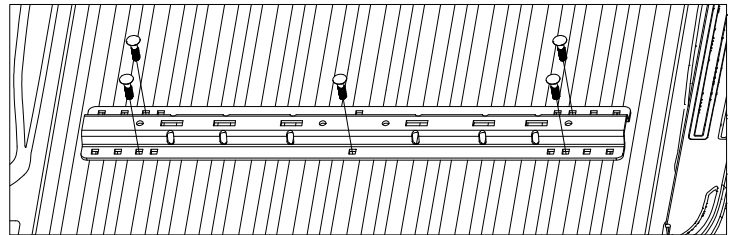
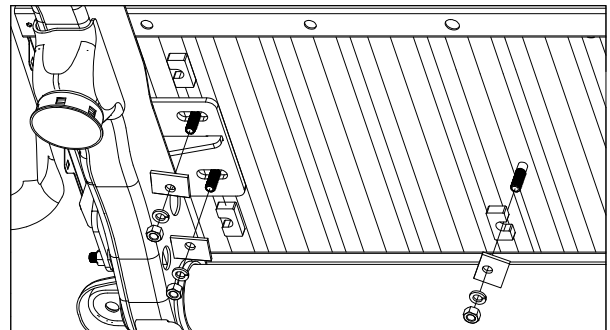

Figure D1: View looking into the back of the truck.
Figure D2: View looking under bed at passenger side plate.
1. **The rear mounting rail.** Re-position the rear mounting rail over the drilled 9/16" holes in the bed. Install five 1/2" x 2" carriage bolts through the five drilled positions, as shown in Figure D1. Under the bed place a U-shaped spacer between the side plate flanges and the bed around each of the five carriage bolts, see Figure D2. Secure each of the five carriage bolts with an offset rectangle washer, lock washer and nut. Hand tighten hardware only at this time.